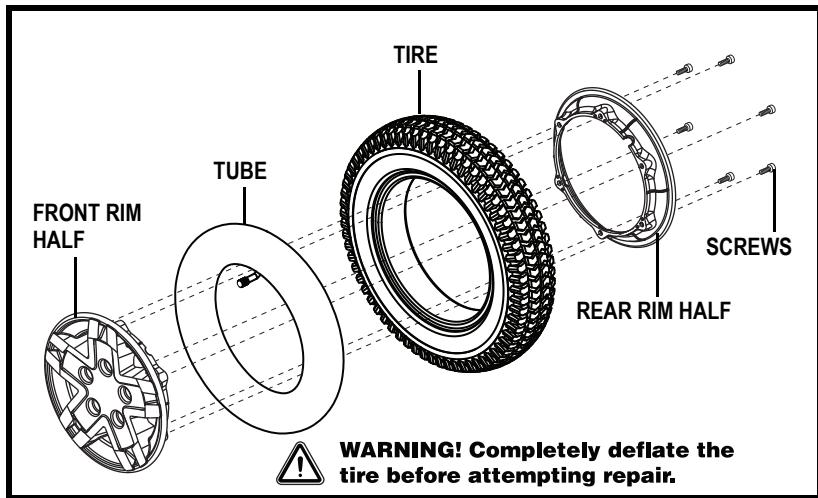

Figure 24. Quantum Q4 Drive Wheel Disassembled
6. Remove the screws and separate the front and rear rim. See **figure 24**.
10. Reinstall the five (5) lug nuts onto the wheel hub and tighten.